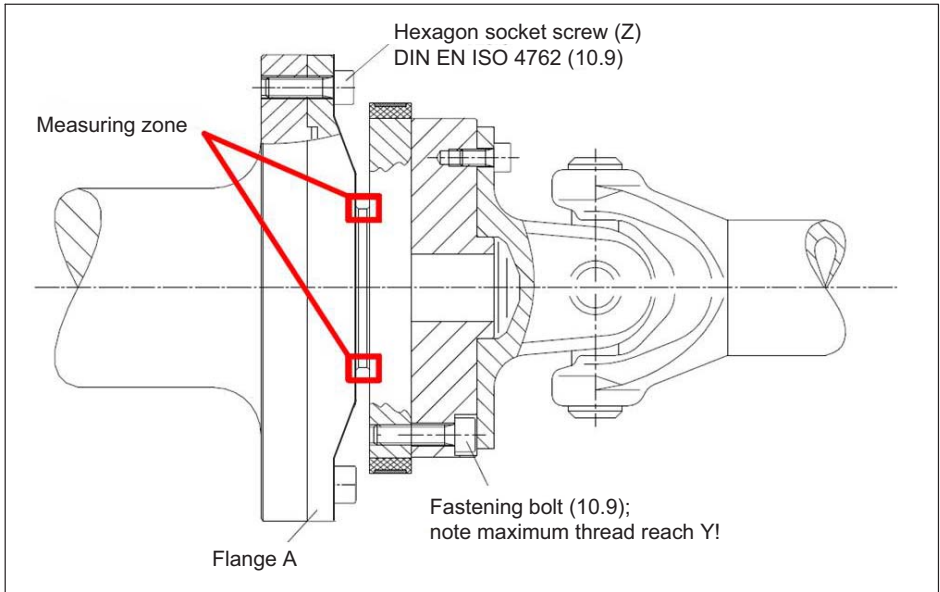

Fig. 5.4 Bolted rotor connection
Make sure during installation that you do not damage the measuring zone marked in Fig. 5.4 by using it to support tools or knocking tools against it when tightening screws, for example. This can damage the transducer and produce measurement errors, or even destroy the transducer.
2. For the connection of flange A (see Fig. 5.4), use DIN EN ISO 4762 property class 10.9 hexagon socket screws of a suitable length (dependent on the connection geometry, see Tab. 5.1 on Page 24).